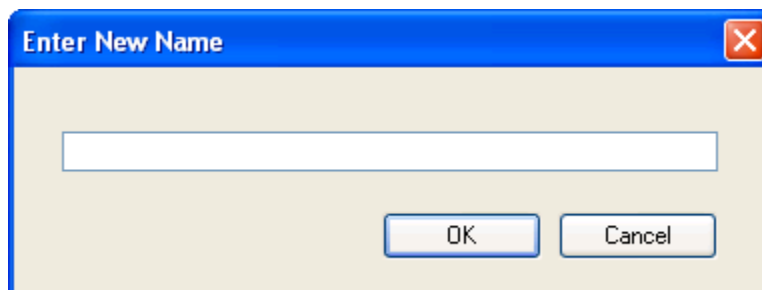

Figure 64 - Enter New Name Window
3. The **Enter New Name** window (Figure 64) appears.